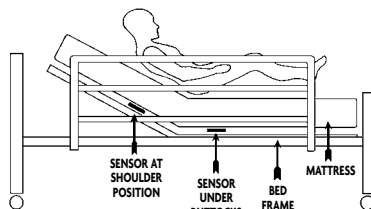
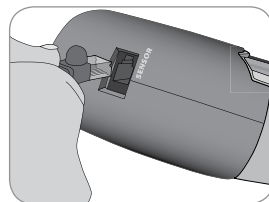

Fig. 25
Fig. 26
3. Place sensor under mattress and directly on top of bed frame. Choose one of two positions (depending on protocol and facility policy) (fig. 25):
- (A) Centered at patient's shoulder blades; or
- (B) Centered under patient's buttocks.
6. Insert RJ11 plug into jack labeled "sensor" on right side of alarm (fig. 26). Alarm will activate. Press the HOLD button. You have 30 seconds to transfer the patient to the bed before monitoring begins (see instructions on page 12 for use of the HOLD button).